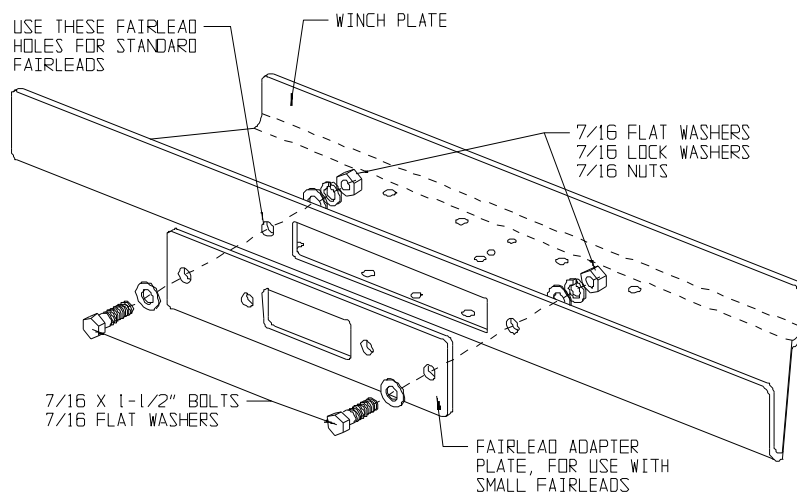

Figure 1
2. Attach as shown in Figure 1 and tighten.